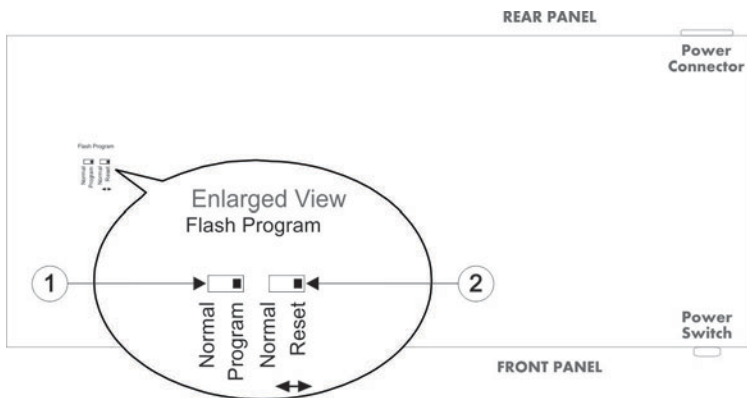

Figure 11: VP-1608 Underside Flash Program Switches Set for Upgrade
1. Connect the RS-232 9-pin D-sub (F) rear panel port on the **VP-1608** to the RS-232 9-pin D-sub (F) COM port on your PC (see Section 5.1) with a 9-wire flat cable.
3. Set the underside Flash Program switches (see Figure 11), as follows: